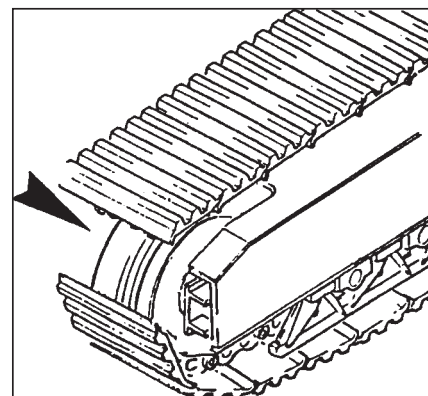

Fig. 3-17 End Position of Track Chain
6. The end position should be the top of the idler (fig. 3-17).